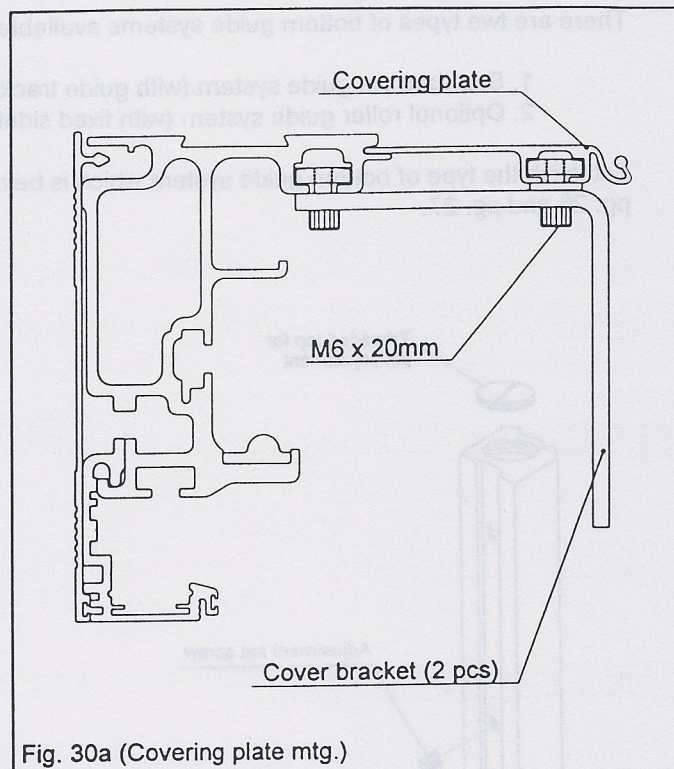
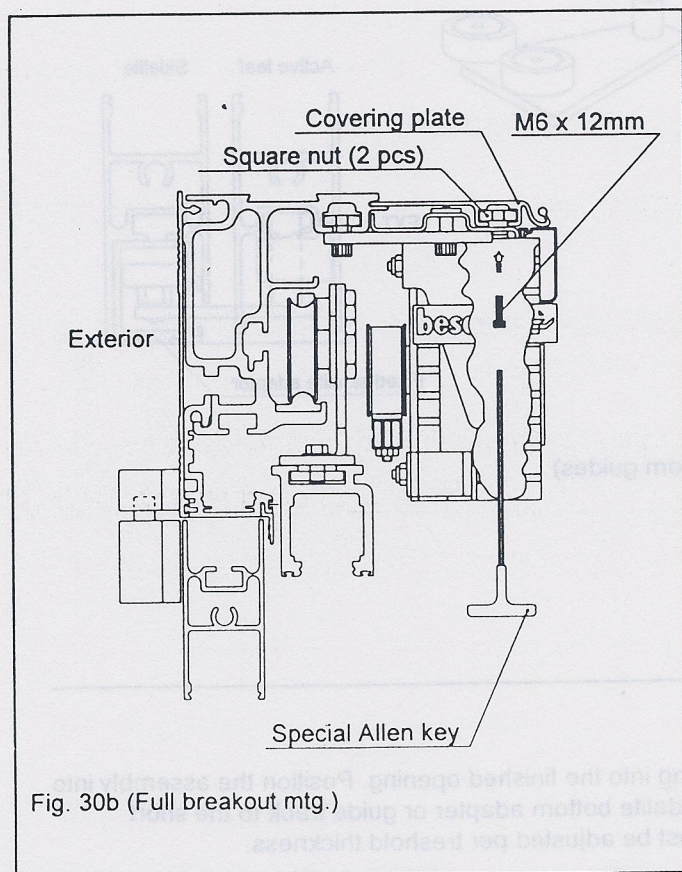

Fig. 30a (Covering plate mtg.)
Fig. 30b (Full breakout mtg.)
1. The covering plate is mounted in the support beam by means of the two cover brackets (see fig. 30a).
2. Two square nuts are fitted with screws in the groove of the covering plate. The screws have been removed (see item 1, page 17). The square nuts are used to fasten the covering plate in the pre-drilled holes in the center of the drive module.
4. Fasten the covering plate (with the earlier removed screws) in the two square nuts by using a special Allen key (see fig. 30b & 30c).